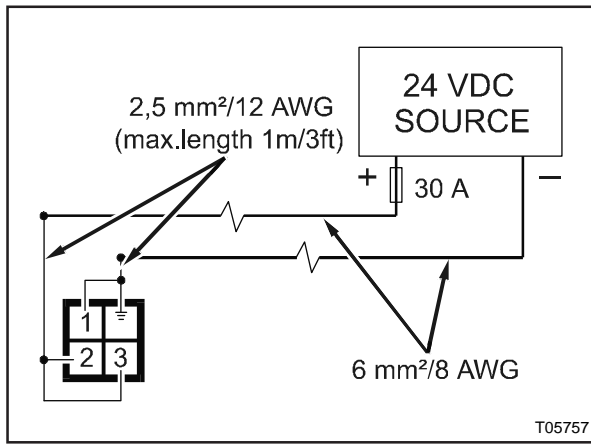

Figure 3 : Typical schematic for 24 V DC power cables not longer than 10 m/30 ft.
**AN ADAPTER CABLE WILL BE REQUIRED TO CONNECT THE WIRES OF THE SUPPLY CABLE TO THE 2.5 MM2/12AWG TERMINALS OF MULTIWIRE CONNECTOR VH 10643046 (REFER TO FIGURE 3).**